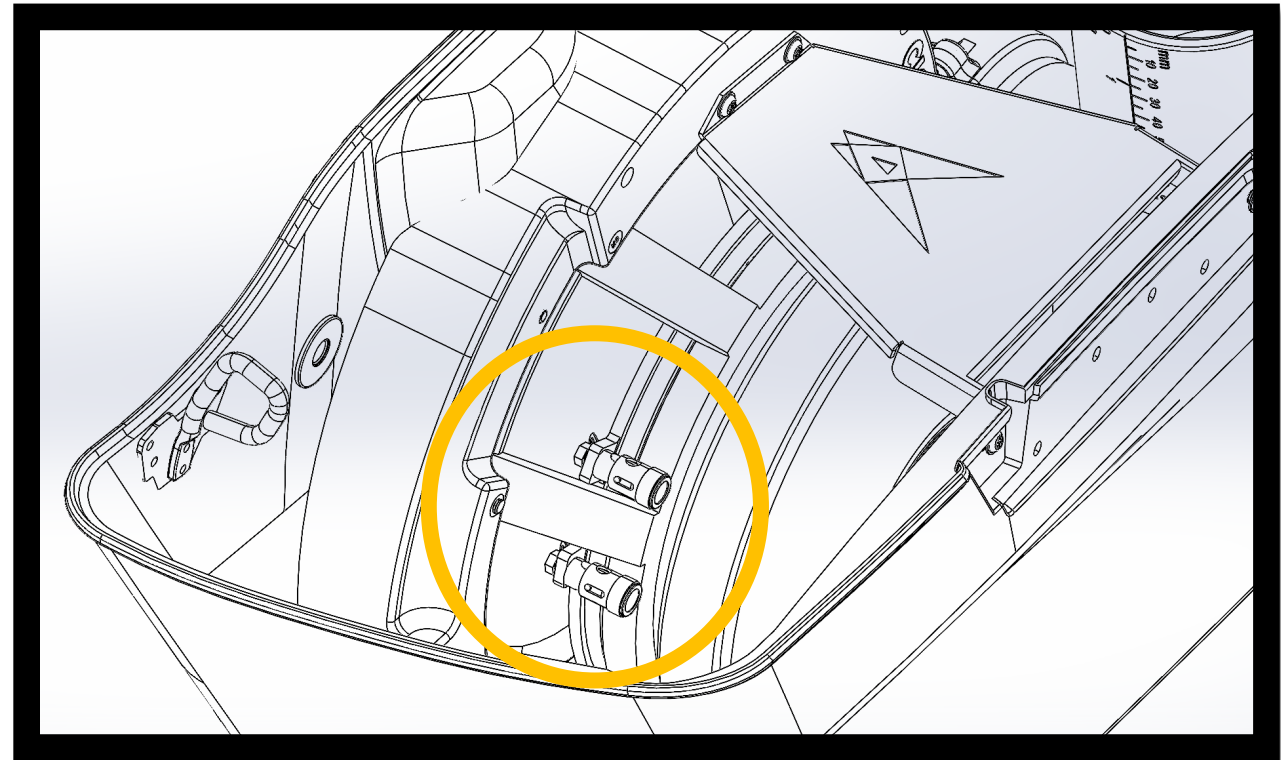

Figure 10 – CMB10.S4 Speaker Terminals
- Install mid-bass orienting speaker terminals facing forward towards the front of the bag, as shown in Figure 10.